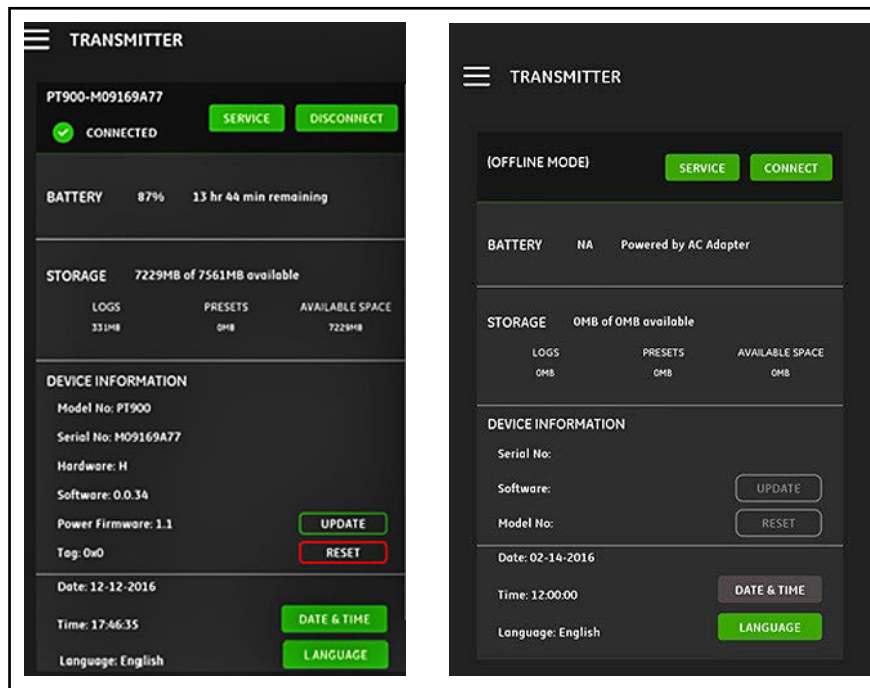

Figure 118: CONNECTED (Left) and OFFLINE (Right) Menus
IMPORTANT: Before creating a new log, be sure to synchronize the transmitter and the tablet time settings by clicking the DATE & TIME button in the TRANSMITTER menu (see *Figure 118 on page 90*).
1. Be sure the transmitter and tablet time settings are synchronized by setting the transmitter time in the TRANSMITTER > DATE & TIME menu (see *Figure 118* on page 90).
If a PT900 transmitter is CONNECTED to the tablet APP via Bluetooth, the TRANSMITTER menu shows device information about the PT900 transmitter, the battery and the memory usage. However, if the connection is OFFLINE, this information is unavailable. See examples of both possibilities in *Figure 118* below.
7. Go to the TRANSMITTER menu (see *Figure 118* on page 90) and verify that the device information is correct.